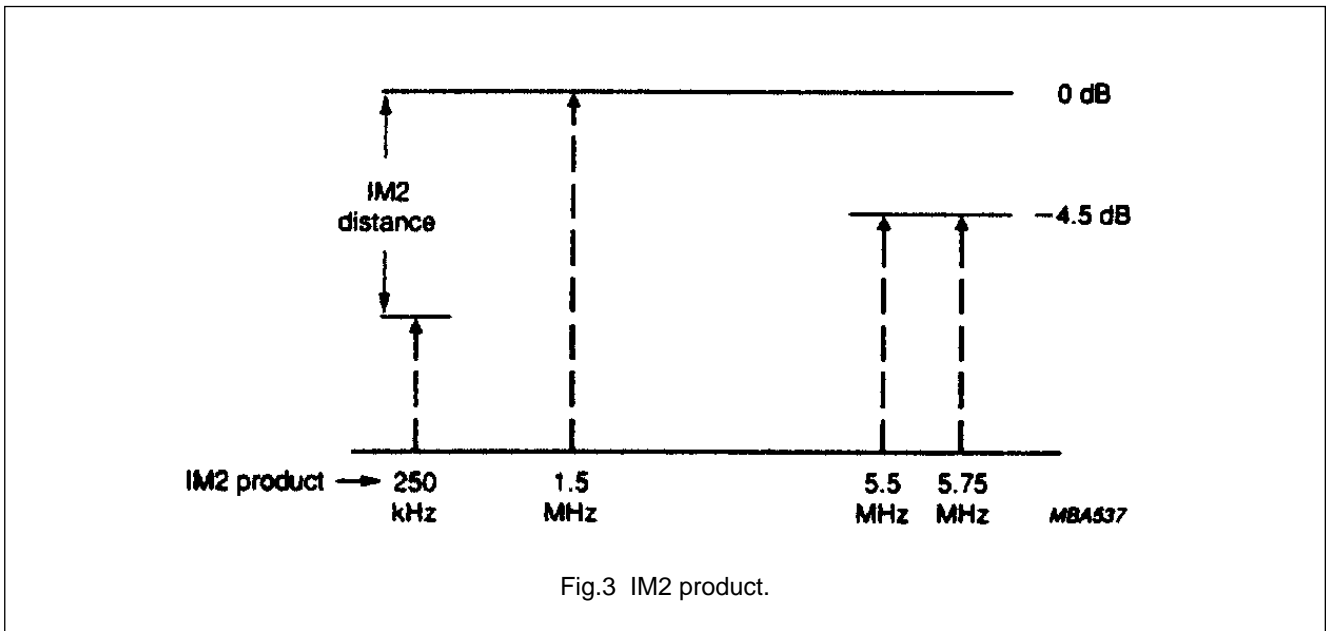

Fig.3 IM2 product.
- For the intermodulation measurement, an FM test signal is applied having the following modulating components: 1.5 MHz reference sine wave with a deviation of 9.45 MHz(p-p), 5.5 and 5.75 MHz sine waves with deviation 5.6 MHz(p-p) (so 4.5 dB below the reference, see Fig.3). At the demodulator output the 2nd order intermodulation is defined according to Fig.3. The video output is loaded with 500  $\Omega$  resistor + DC blocking capacitor.